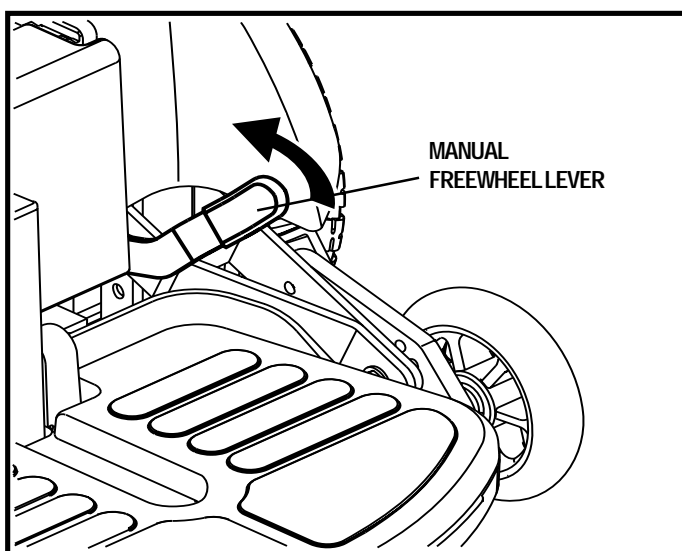

Figure 9. Freewheel Mode (Drive Disengaged)
3. Pull the levers upward to disengage the drive motors (freewheel mode). See figure 9.